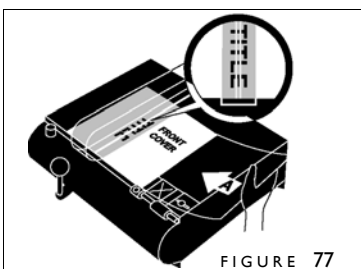

FIGURE 77
3. Slide your cover under the transparent bar until your title is centered under the single silver line (Figure 77). Make sure the bottom of your cover rests against the Left Stop and the Guide Rail. Push the Lever to the right so your cover will not move.